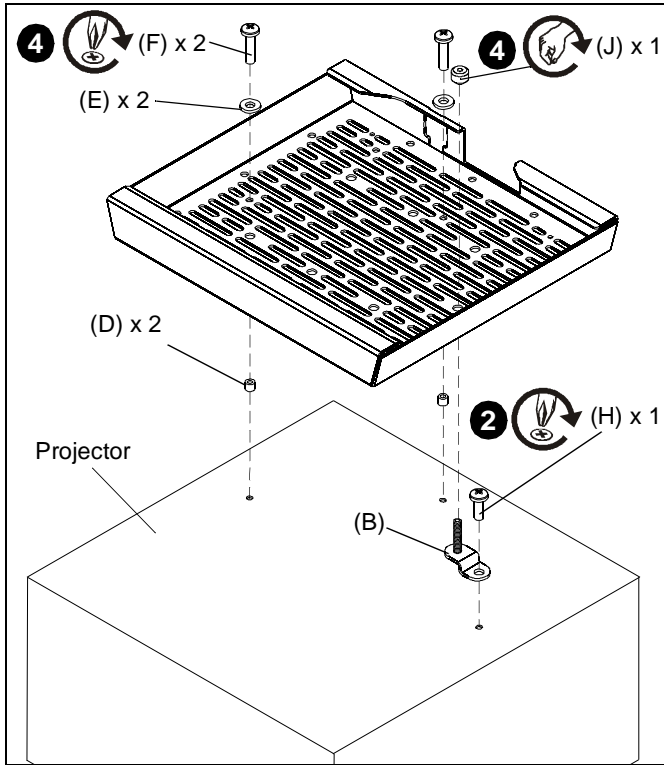

Figure 7
1. Align projector and security mount drawer so that the projector is oriented correctly and mounting holes are aligned. (See Figure 7)
2. Secure projector end of mounting foot (B) to projector using one M4 x 12mm Phillips head machine screw (H). (See Figure 7)
3. Orient mounting foot (B) so that threaded end is in line with mounting hole in mount.
4. Secure projector to mount using two M4 x 16mm Phillips head machine screws (F), two flat washers (E) and two spacers (D), and secure mounting foot to mount using one thumb nut (J). Spacers should be placed between projector and mount. (See Figure 7)